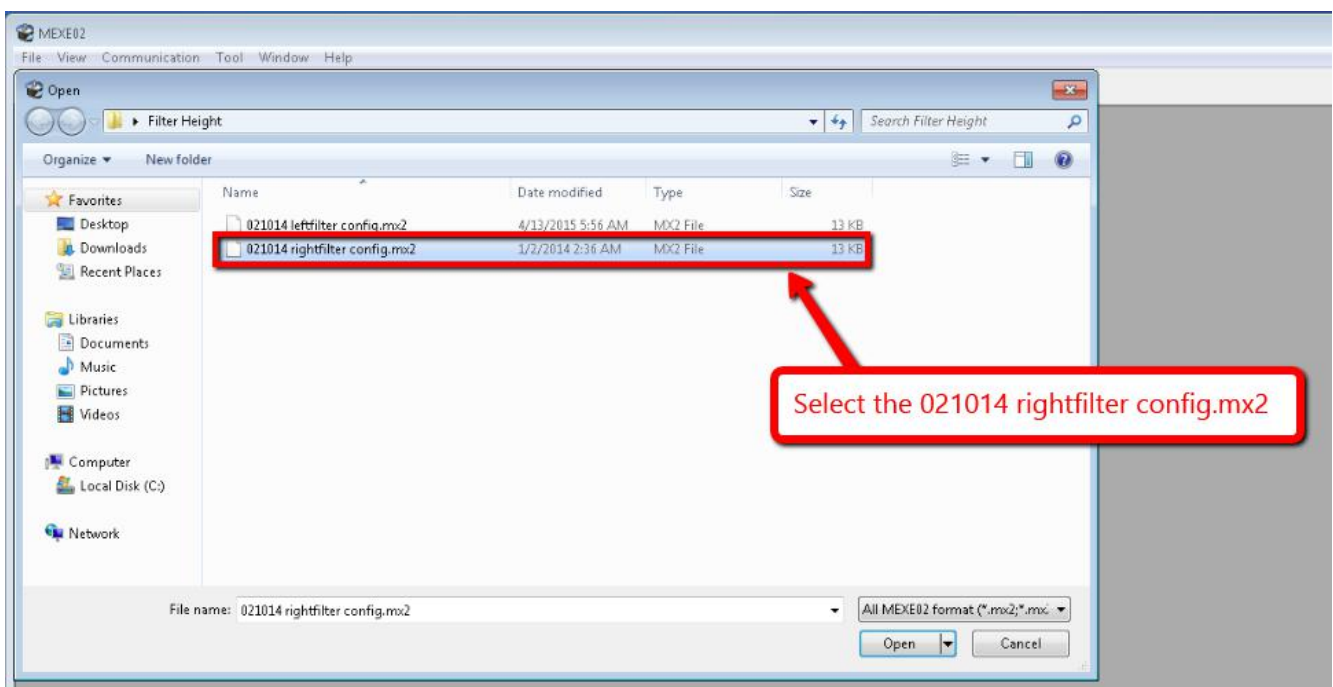

Figure 15 MEXE02 Software Interface
14. Select the file **"021014 right filter config.mx2"** as shown in the Figure 15.